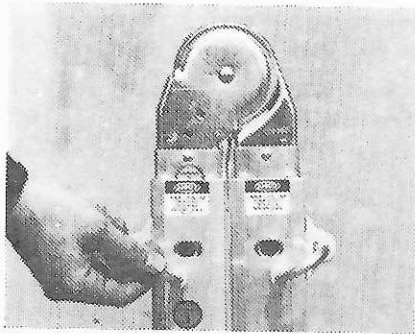

Figure B-2
- a. With the ladder in the storage position, pull the four Lock Assemblies out of the rung holes of the inner ladder and rest them on the sides of the outer ladder rails. (See FIGURES B-2 and B-3).